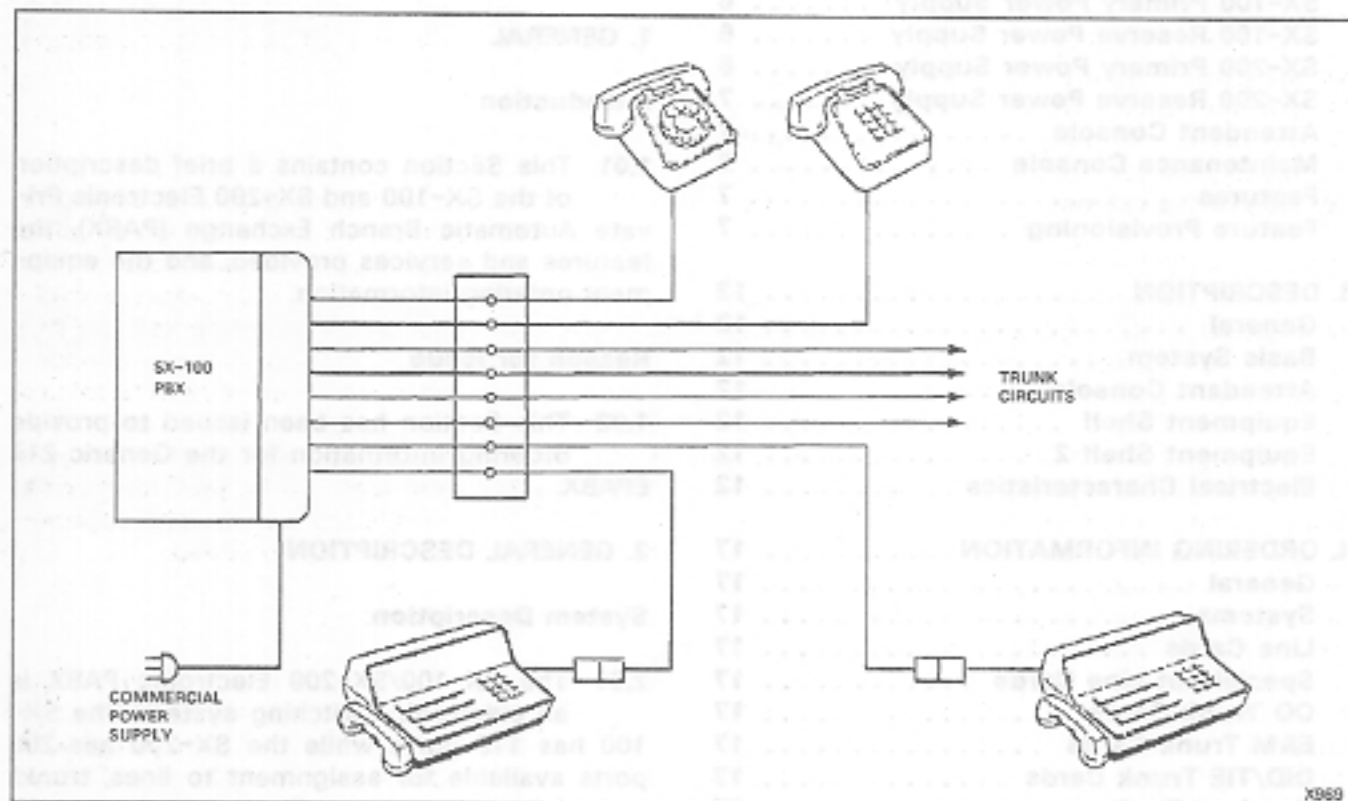

Fig. 2-1 System Configuration
2.05 Figure 2-1 shows a diagrammatic representation of the system configuration.